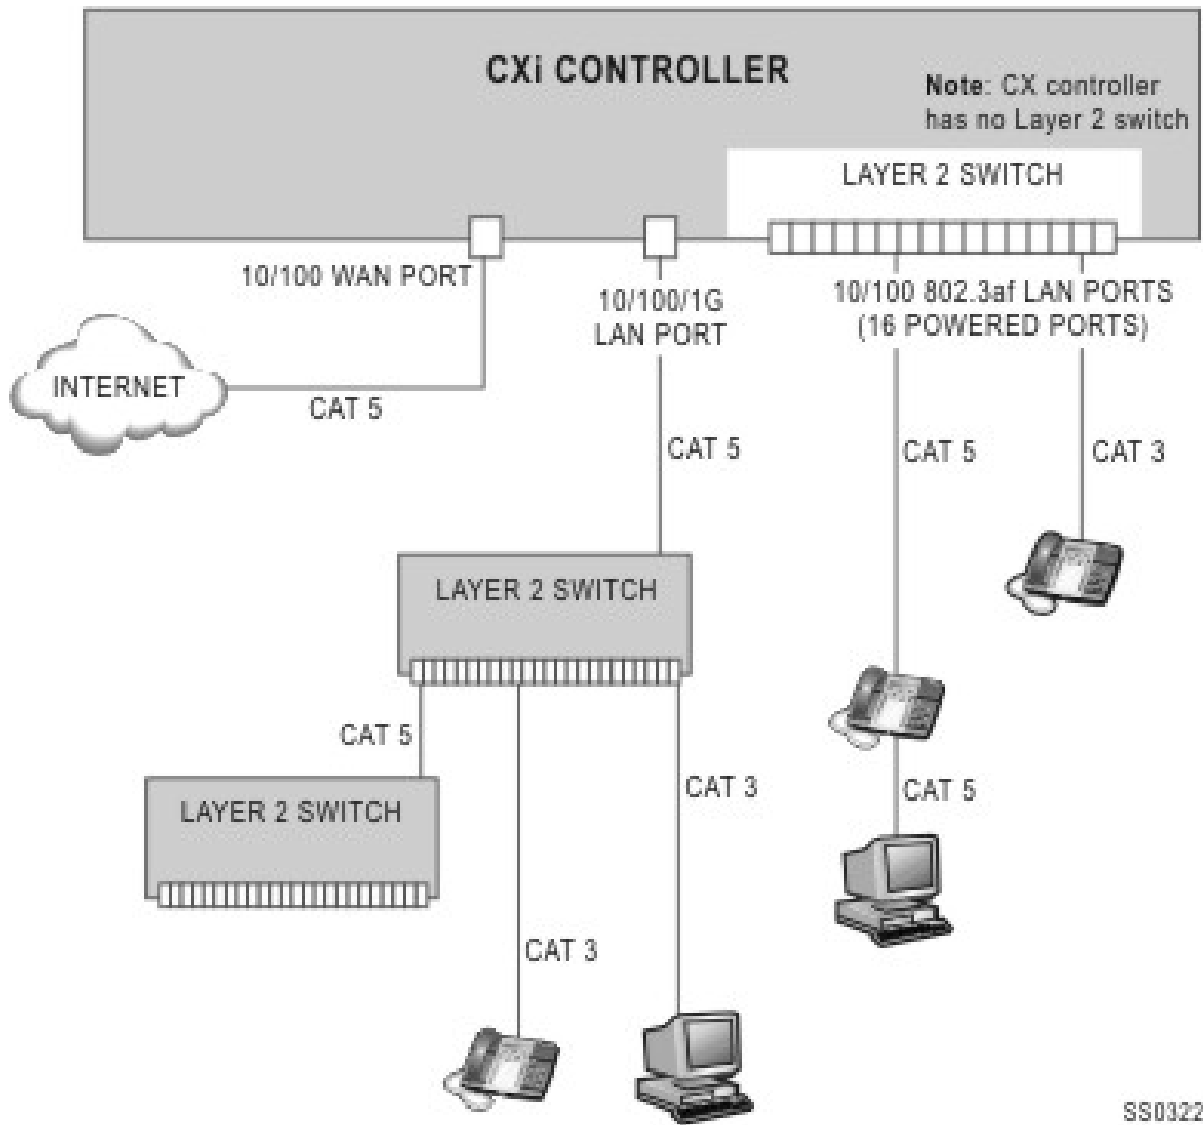

Figure 23: Recommended Ethernet Cabling for CXi II
- Category 3 cable can be used for one purpose only: to connect single Ethernet devices (IP phones or PCs) directly to the controller or a Layer 2 expansion switch; see Figure 23: Recommended Ethernet Cabling for CXi II.